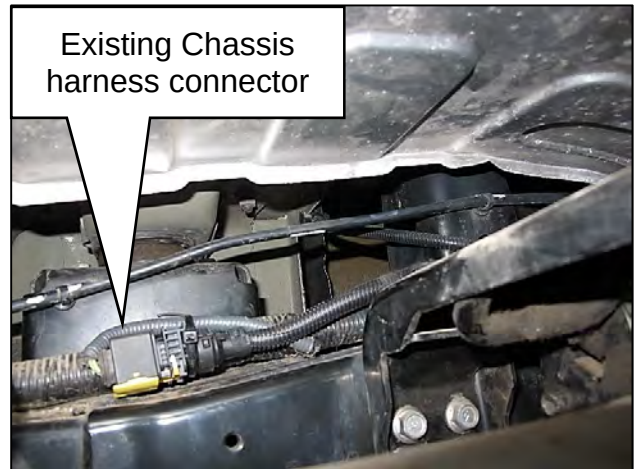
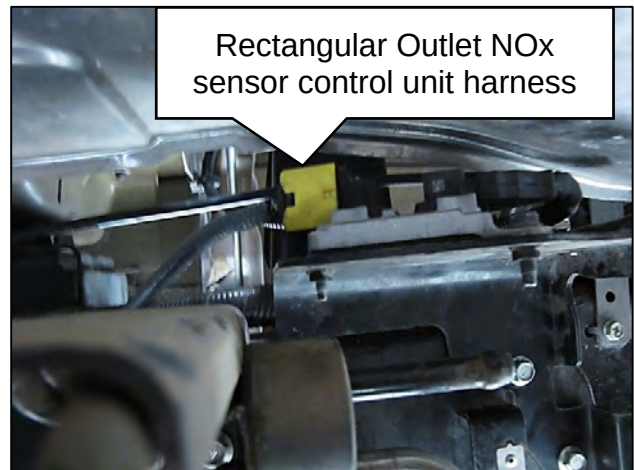

Figure 41
Figure 42
29. Plug the jumper harness into the Outlet NOx sensor control unit and the existing chassis harness connector on the frame rail (Figure 41 and Figure 42).